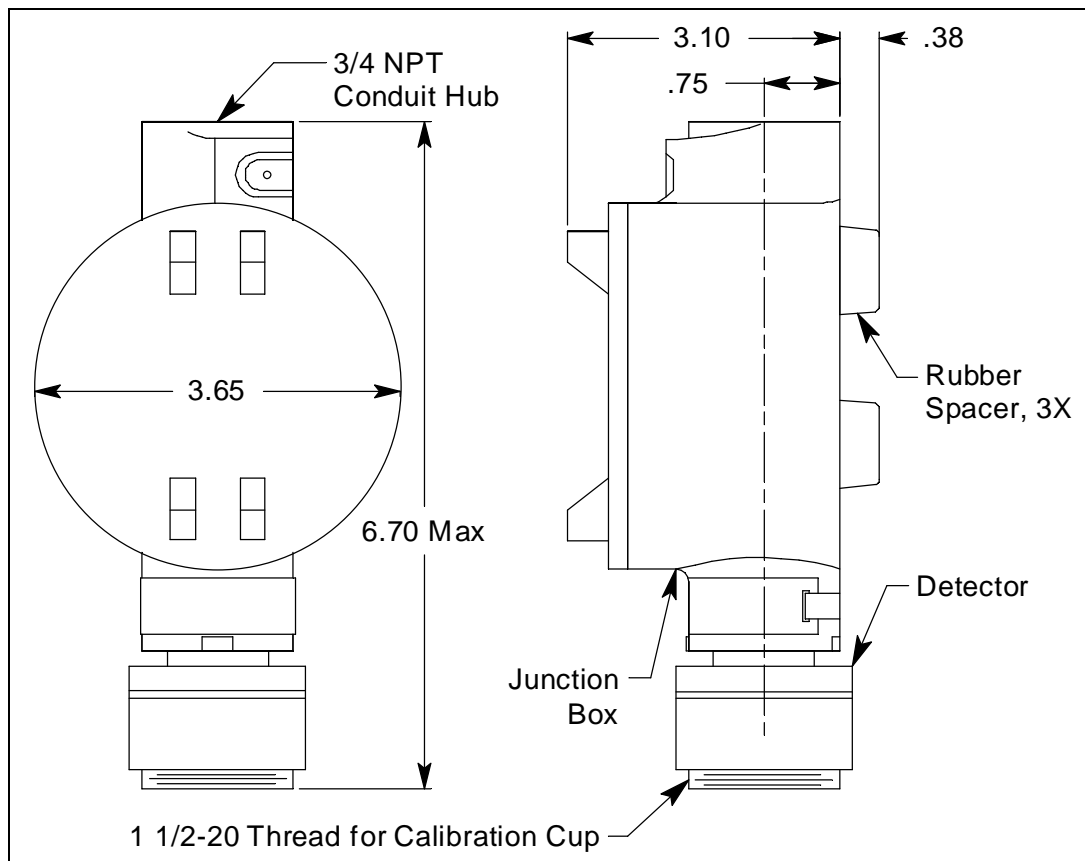

Figure 4: Mounting the Toxic Gas Transmitter
2. At the monitoring site you select, hang or mount the junction box with the detector facing down (see Figure 4).